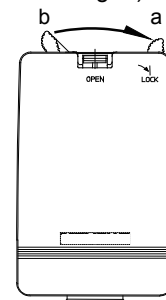

Figure 6. Fixing the main unit on the duct (with the mounting bracket)
- 5) Completely insert the probe into the duct. Then, fix the probe and the bracket by turning the stopper 45 degrees (from 'b' to 'a' shown in Fig. 6) to lock.